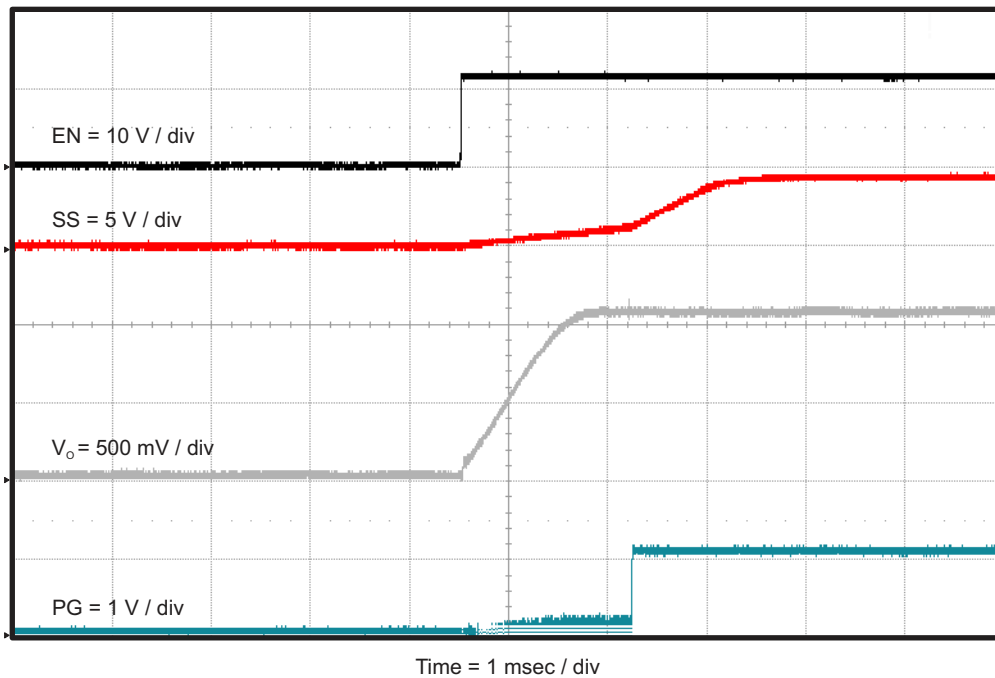

Figure 4-12. TPS563210EVM-663 Start-Up Relative to EN
The TPS563210EVM-663 start-up waveform relative to enable (EN) is shown in Figure 4-12. Load = 1 Ω resistive.